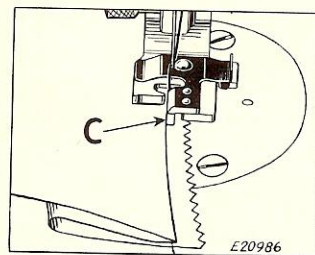
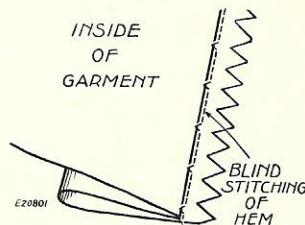

Fig. 9. Invisible Hem with Pinked Edge Being Blind Stitched
Fig. 10. Blind Stitching Completed
- Place this pinked edge of the hem under the attachment with the **fold** against the guide C, as shown in Fig. 9. (Adjust the guide C according to the material to be blind stitched, as instructed on Page 3.) Then lower the presser bar and commence sewing, carefully guiding the **fold** of the garment against the guide C so that the straight stitching will be made **only** in the single thickness of the pinked edge and the tacking or side-wise stitches will be made in the fold of the garment, as shown in Fig. 10.